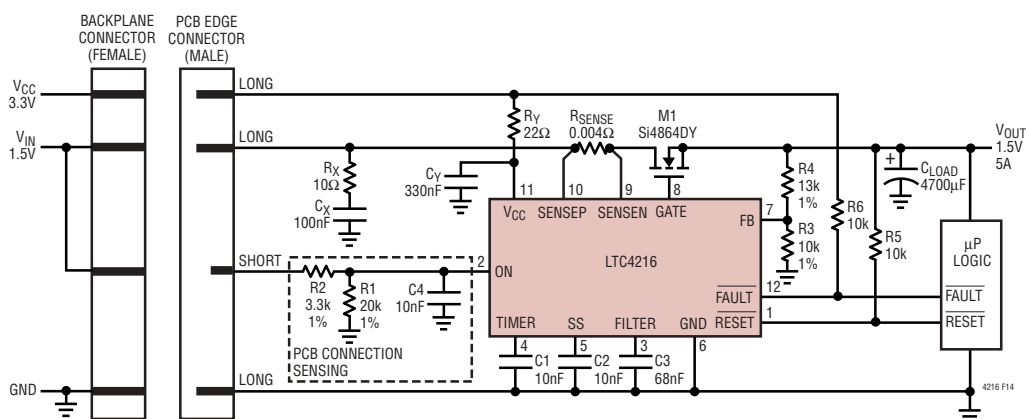

Figure 14. Single Channel 1.5V Hot Swap Controller
The LTC4216 can be used on either the backplane side of the connector or a printed circuit board, and examples for both are shown in Figure 14 and 15. Printed circuit board edge connectors with staggered pins are recommended as the insertion and removal of circuit boards will sequence the pin connections. Supplies ( $V_{CC}$  and SENSEP) and ground connections on the printed circuit board should be wired to the long pins or blades of the edge connector. Control signal (ON) and status signals (RESET and FAULT) passing through the edge connector should be wired to short pins or blades.
An example is shown in Figure 14, in which the LTC4216 is mounted on the PCB and the R1/R2 resistive divider is connected to the ON pin. On the edge connector, R2 is wired to a short pin. Before the connectors are mated, the ON pin is held low by R1, keeping the LTC4216 in an off state. When the connectors are mated, the resistive divider is connected to the load supply ( $V_{IN}$ ) and the ON pin voltage rises above 0.8V, turning the LTC4216 on.